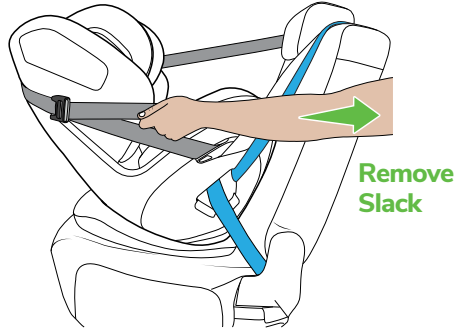

Figure 1
Step 1. Remove slack only. Do not over-tighten the top tether strap so that the restraint lifts up off the vehicle seat (Figure 1).